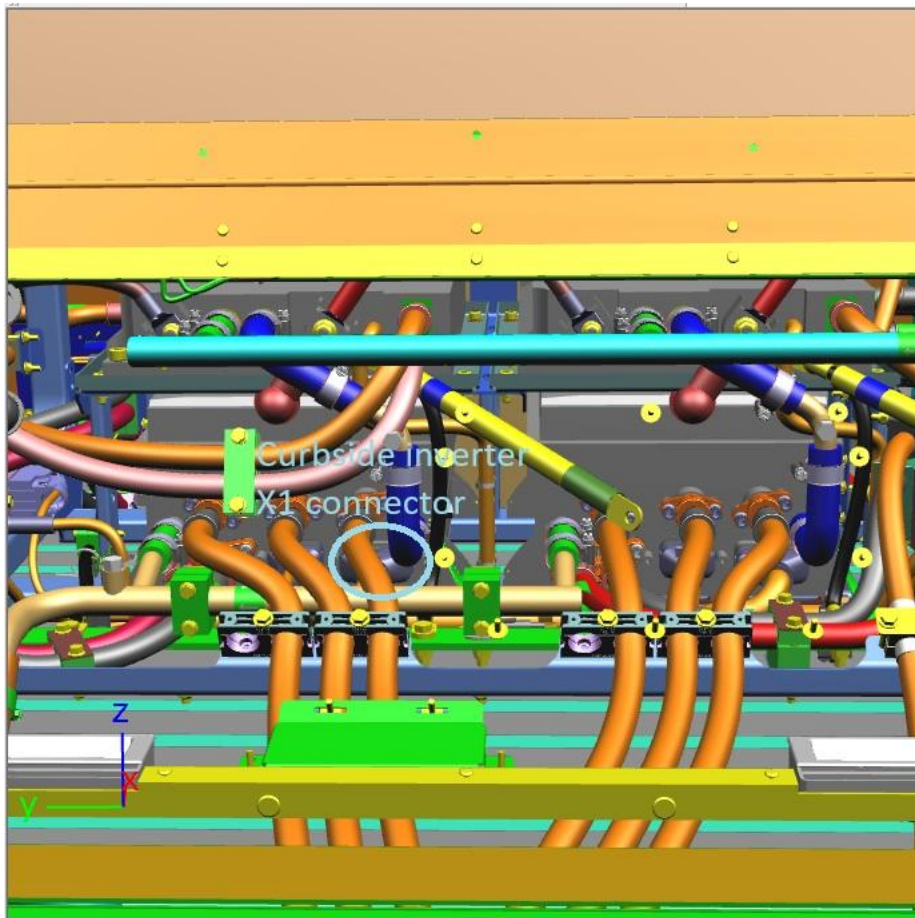

Figure 16: XE35/40 high grade curbside traction inverter X1 connector highlighted in light blue
46. Locate the X1 connector on the curbside traction inverter (see figure 16) and remove it. Secure this connector nearby using Tywraps to reconnect later. Be aware the locking tab is located on the bottom of the connector and needs to be opened.